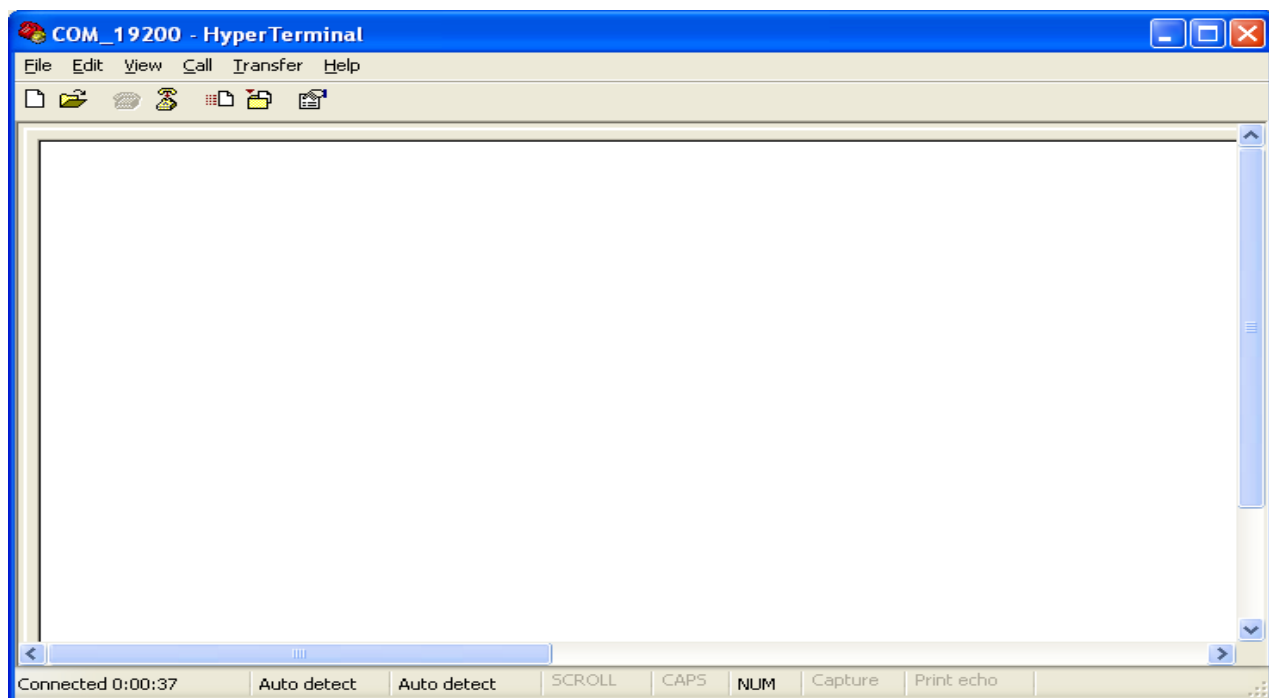

Figure E-6. HyperTerminal
5. The HyperTerminal is now configured as shown in Figure E-6